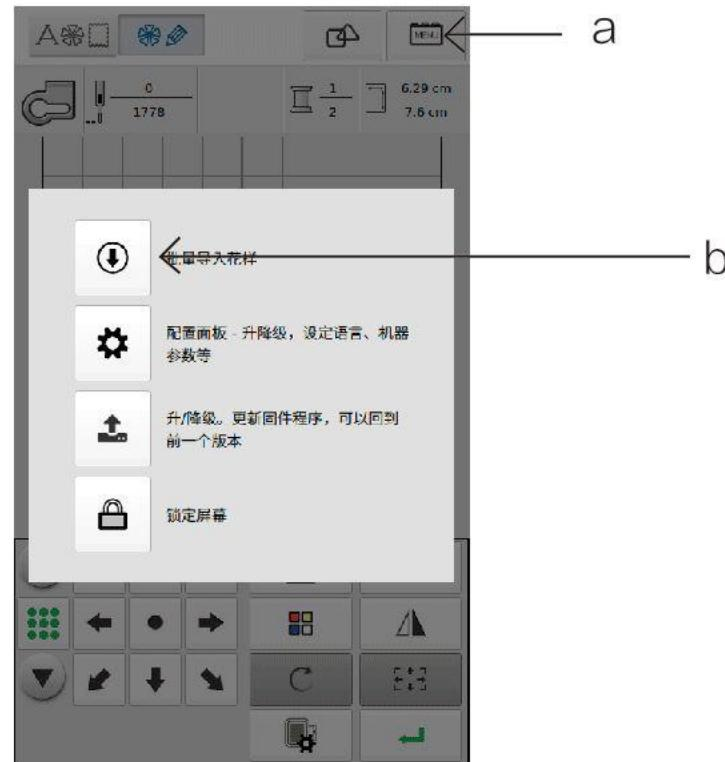

图13 Figure 13
- ② 点击a，进入图13界面，点击b，进入图14界面
Click a indicating to enter the interface in Figure 13. Click b indicating to enter the interface in Figure 14.